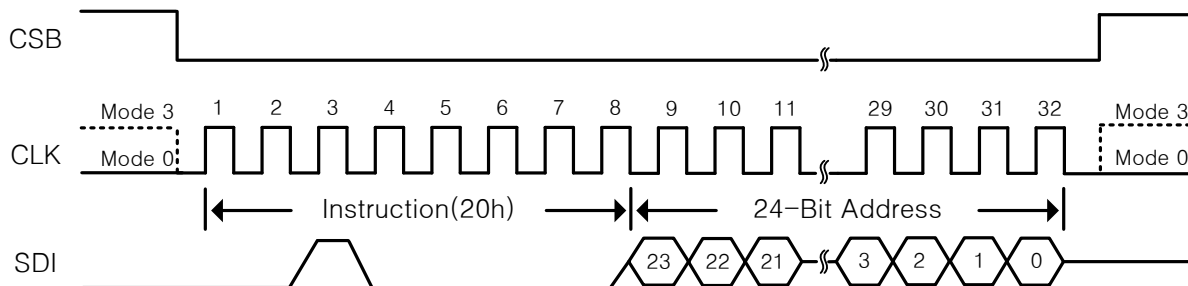

Figure 4. Sector Erase Instruction Sequence Diagram
The Sector Erase(SE) instruction is entered by driving Chip Select(CSB) low, followed by the instruction code, and three address bytes on Serial Data Input(SDI). The instruction sequence is shown in Figure 4. Chip Select(CSB) must be driven high after the eighth bit of the last address byte has been latched in, otherwise the Sector Erase(SE) is not executed.